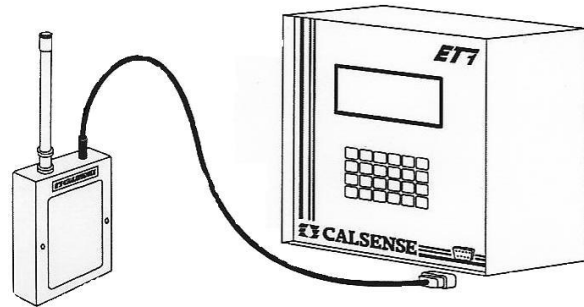

Figure 2.2
3. Connect the REC-RR receiver cable (9 pin female) to the port (9 pin male) on the front face of the controller panel (Figure 2.2).